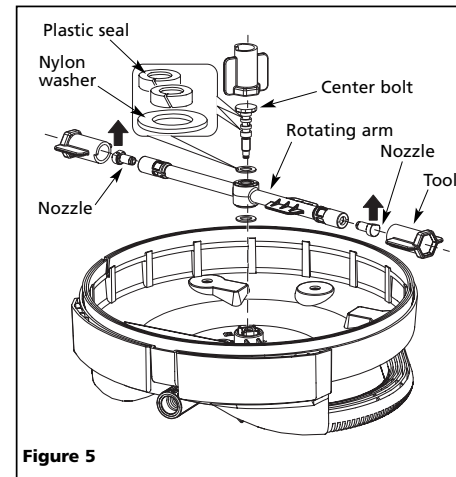

Figure 5
NOTE: After repeated use or damage, replace plastic seals and nylon washer as needed (see Figure 5). An extra supply has been included for your convenience.
1. Using tool provided, remove center bolt and rotating arm as shown in Figure 5.
2. Using the same tool, remove nozzle from each end of rotating arm as shown in Figure 5.
4. Replace rotating arm and center bolt. Tighten center bolt using tool provided, as shown in Figure 5.